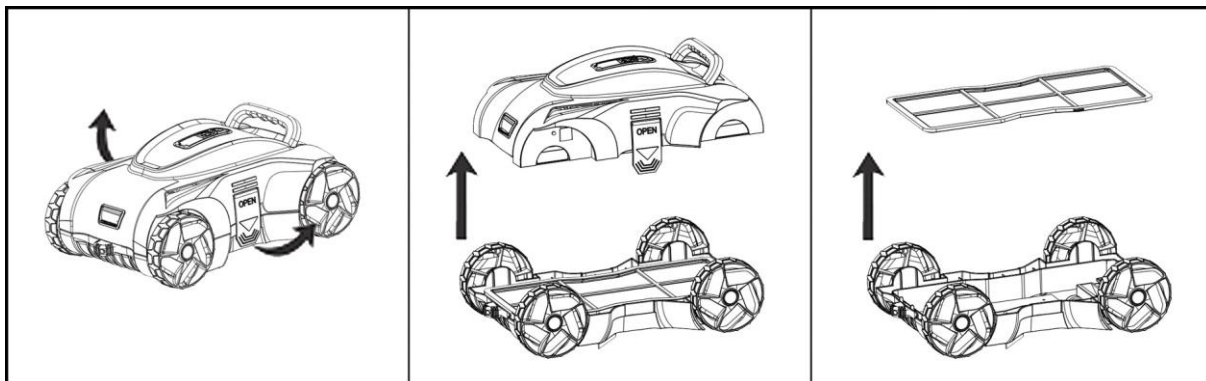

Fig. 5
- Open the unit at the two fixing points to be able to remove the cover and filter insert (Fig. 5).